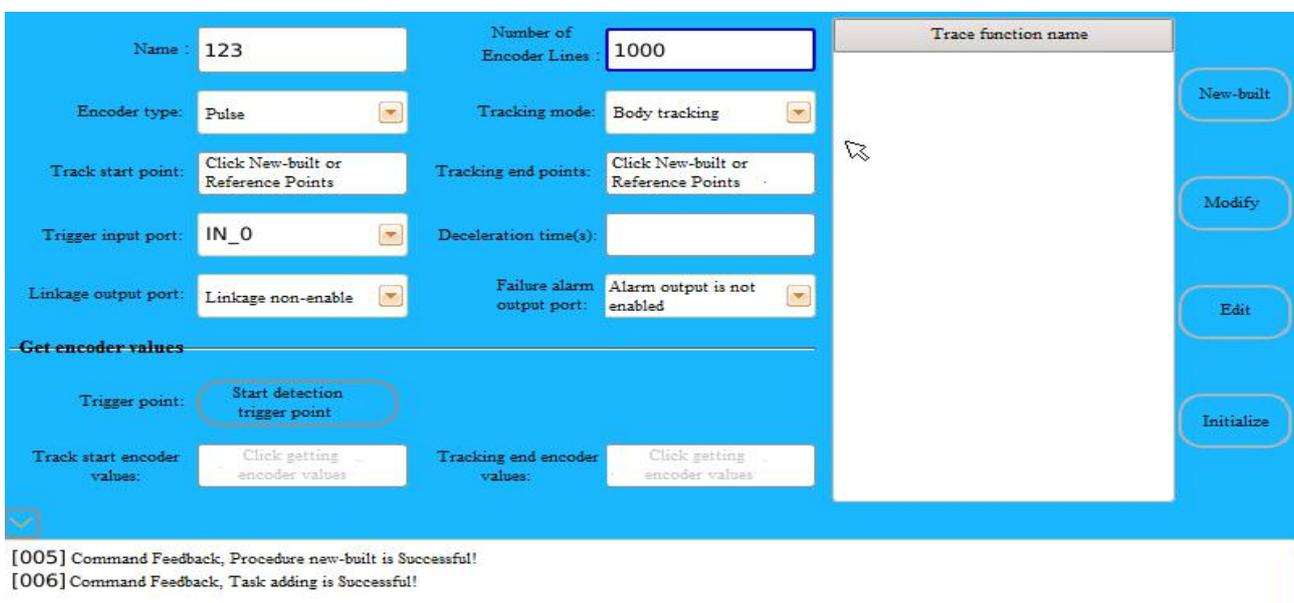

Fig. 6.3 Pulse Encoder Body Tracking Mode
(2) Pulse encoder body tracking: After select the “Pulse encoder body tracking” tracking function, the parameters needed to be set are basically consistent with the parameter setting parameters of the “Encoder body tracking is not used” tracking function as shown in Fig. 6.3, but there are some differences: the “Number of Encoder Lines” is determined by pulse encoder specification; Firstly, the “Start detection trigger point” is required, and the input port is triggered to obtain a high-level “1” to trigger the success; the “Track start encoder values” is position detection, which starts with the I/O input port trigger, the encoder running these “coder value” and starting the “Tracking”; The “Tracking end encoder values” is also a position detection, starting with the I/O input port trigger, the encoder runs these “coder value”, and if the “Tracking” is not started, the “Tracking” fails.